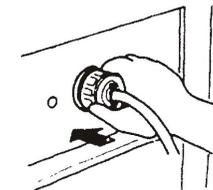

Figure 31
7.5.2 Connect the devices (Figure 31)